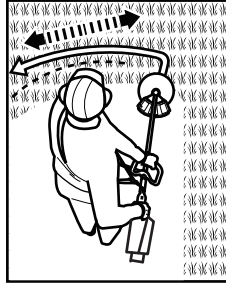

Fig. 14b
6). Move the product with slow and regular arc from left to right before moving it back to the starting position before trimming the next area. (See Fig. 14b)